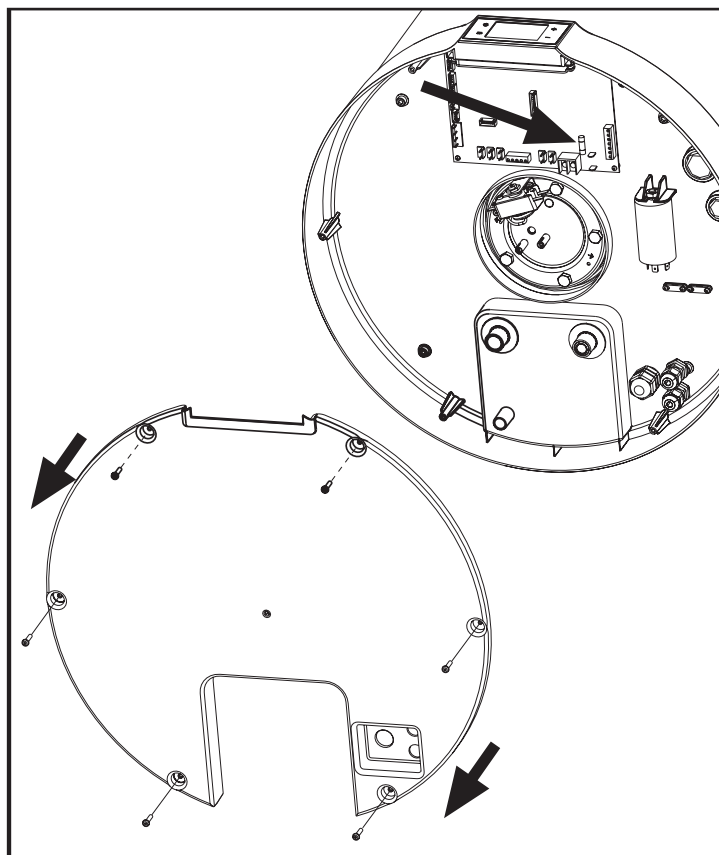

fig. 40
- Remove the bottom cover by first undoing the locking screws (fig. 40).